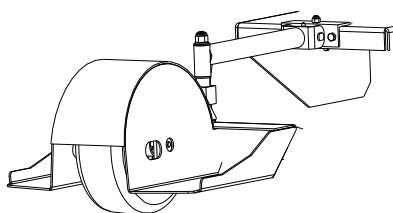

FIG 5
- Sulky: See FIG 5
Move the blade drive lever backwards to disengage position to stop the blades. FIG 5.